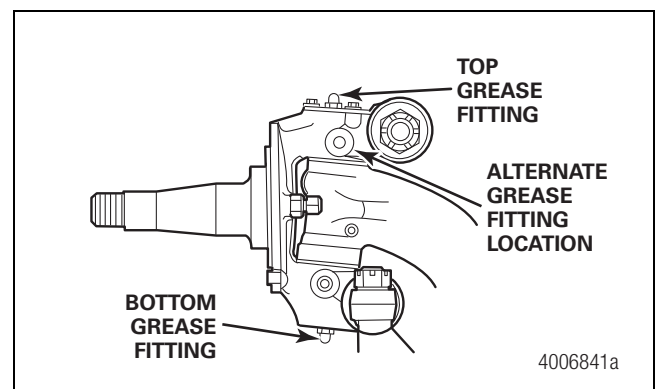

Figure 9.6
4. Lubricate the king pins through the top and bottom grease fittings. Figure 9.6.
4. Lubricate the king pins through the grease fittings on the top and bottom king pin caps. Figure 9.6.